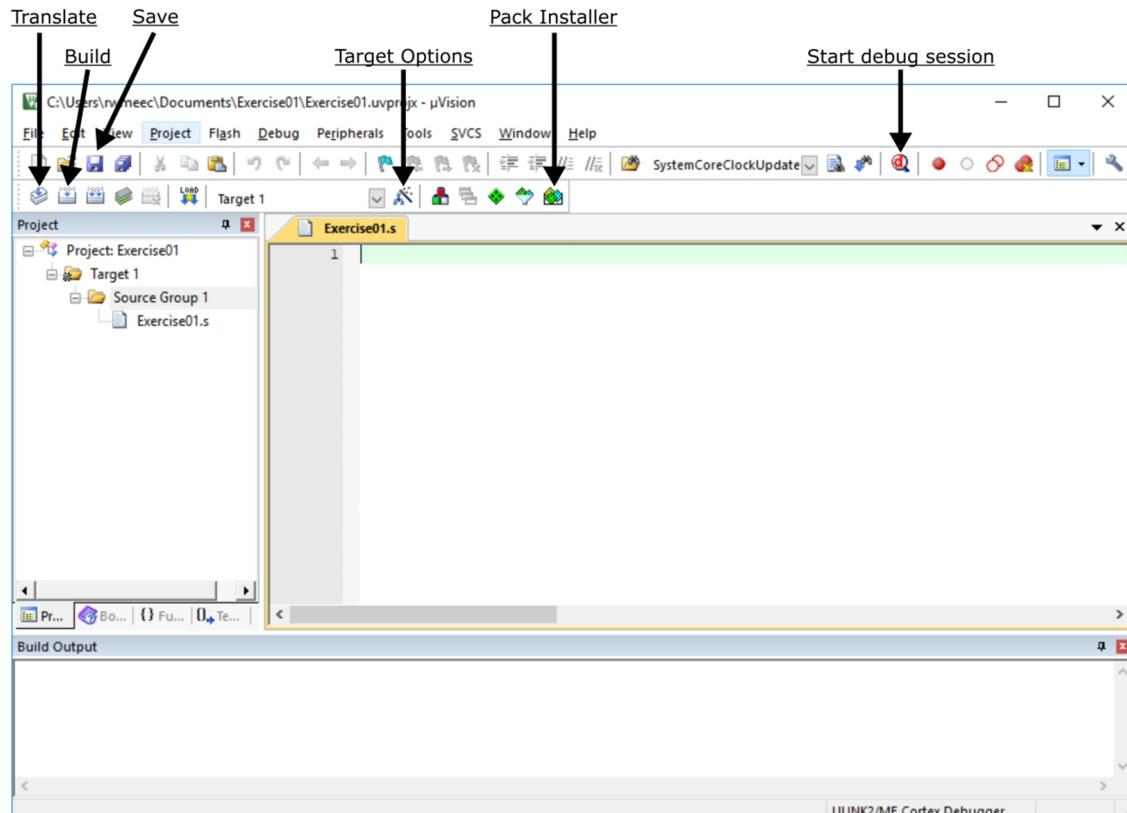

Figure 9. Source File in µVision IDE Editor
- e. Click the Add button to create Exercise01.s. Exercise01.s is then opened in the editor pane on the right side of the µVision IDE window, as shown in Figure 9.